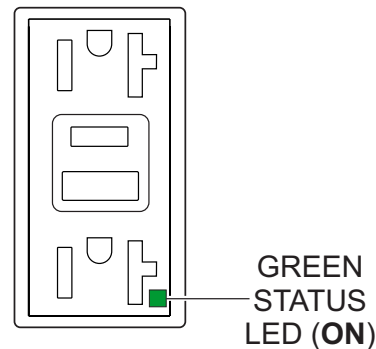

Figure 73. GFCI Receptacle (ON)
3. Verify that the status LED on the corresponding GFCI receptacle (Figure 73) is **ON (GREEN)**.